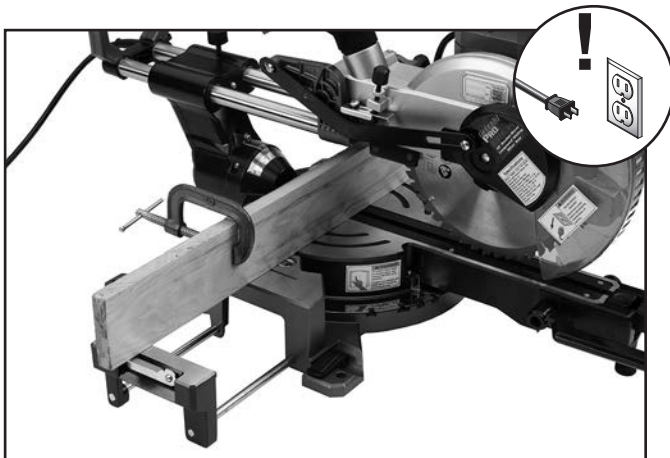

Figure 66. Zero-clearance fence clamped to existing fence.
3. Clamp board to front of existing fence so it is secure along its length (see **Figure 66**).